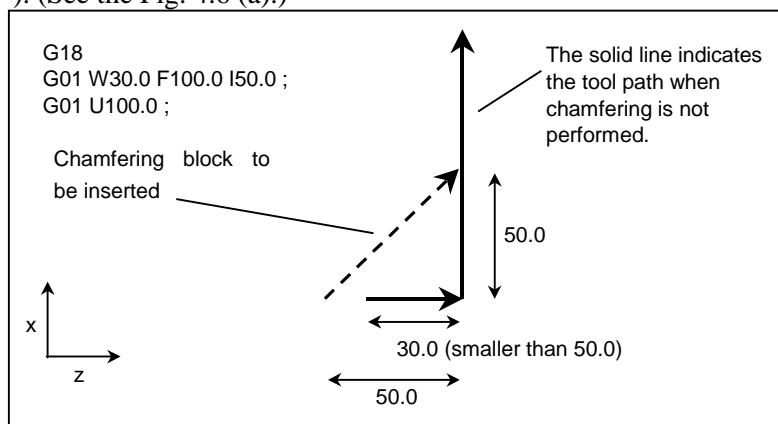

Fig. 4.6 (a) Example of machining which causes alarm PS0055
- 7) The travel distance along an axis specified in the block in which chamfering or corner R is specified is smaller than the amount of chamfering or corner R (alarm PS0055, “MISSING MOVE VALUE IN CHF/CNR”). (See the Fig. 4.6 (a).)